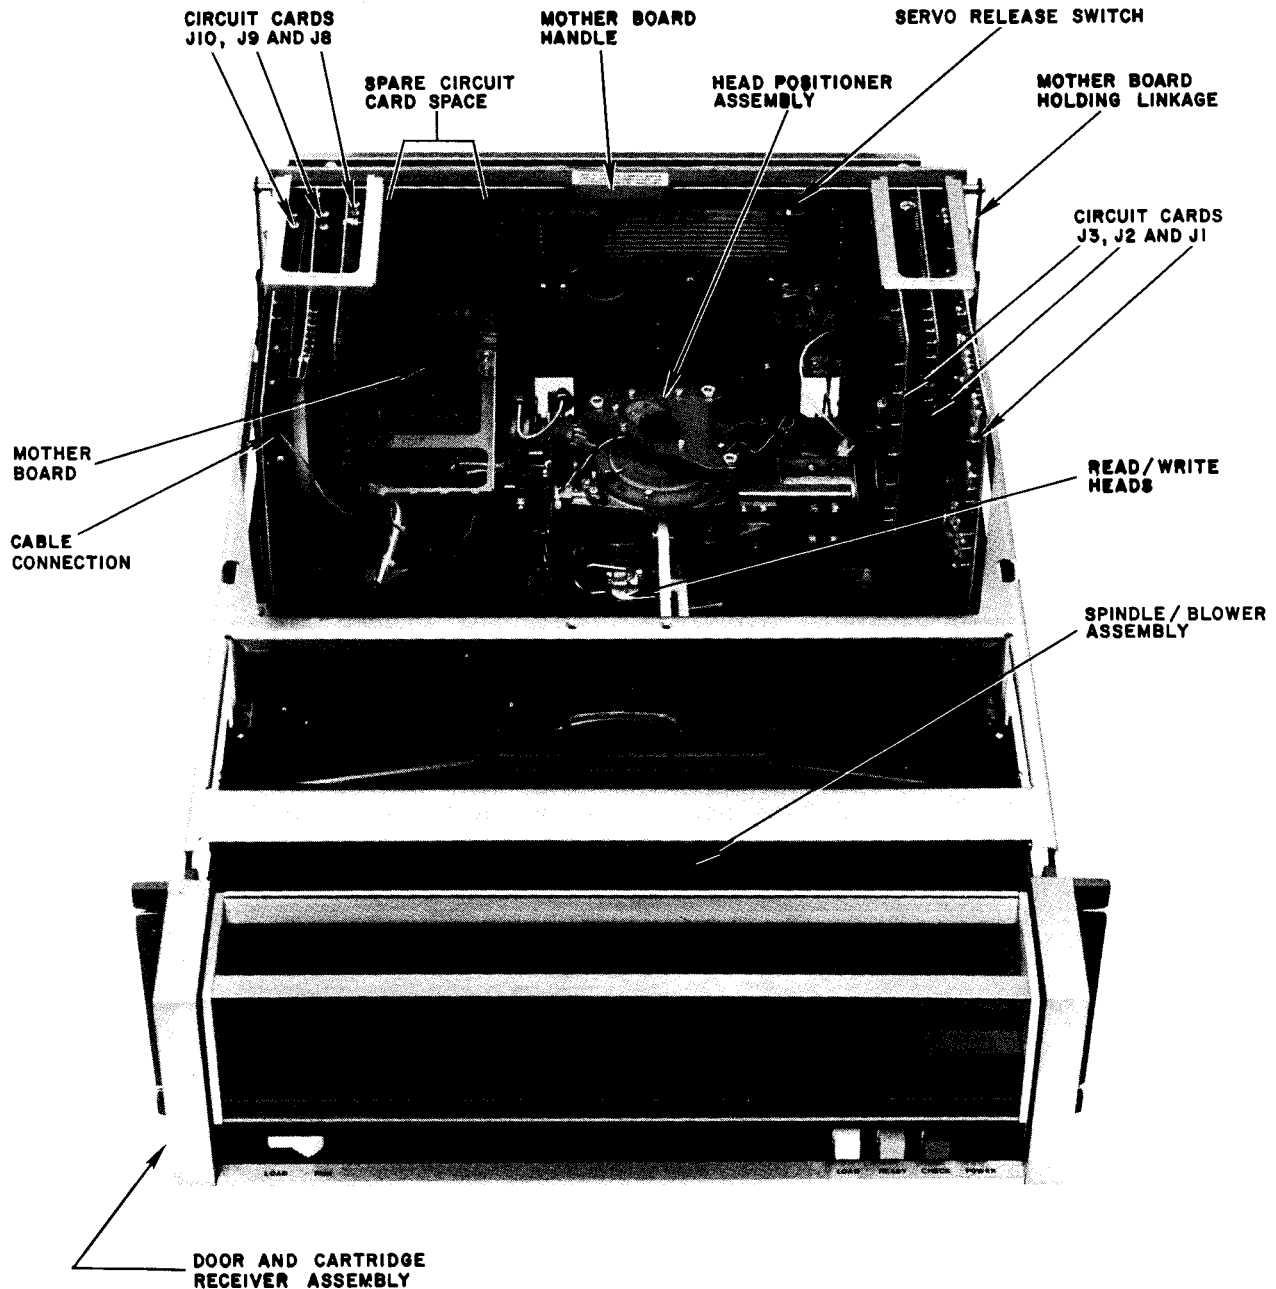

Figure 5-5 INTERNAL COMPONENTS
[CAUTION] Carefully study Figure 5-5. The several PCB's **MUST** be inserted **ONLY** in their proper connector, and **MUST** always be properly oriented with their component side facing toward the centerline of the machine. Failure to observe this precaution will result in damage to the circuit boards, and will void the warranty.
2. With power applied and the Servo Release Switch (see Figure 5-5) depressed, manually move the rotary member of the Position Transducer back and forth.